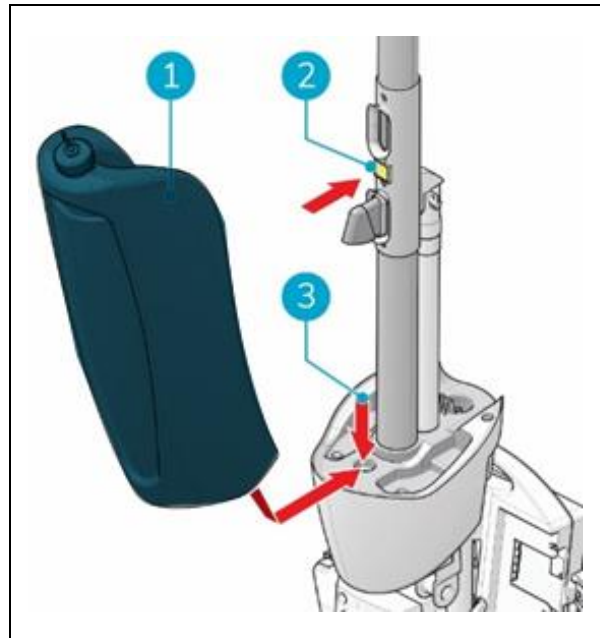

Figure 13
1. Put the bottom of the recovery tank (Figure 13, pos 1 and pos 3) on the front of the i-mop® XL.
2. Push the top of the tank into place until you hear a 'click' sound, the magnet (Figure 13 pos 2) will lock the recovery tank into place.